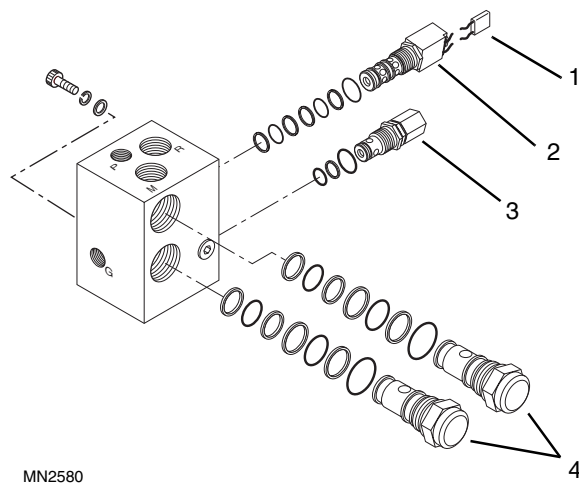

Figure 4-70 High Flow Valve Components
8. Unplug the electrical connector (Fig. 4-70, 1) from the solenoid (2) on the valve.
2. Remove the solenoid/cartridge assembly (Fig. 4-70, 2) from the valve housing.
3. Remove the relief valve (Fig. 4-70, 3) from the valve housing.
4. Remove both pressure sensing valves (Fig. 4-70, 4) from the valve housing.
1. Clean all components with a suitable solvent. Avoid getting solvent on the electrical portion of the solenoid valve (Fig. 4-70, 2).
1. Install the solenoid/cartridge assembly (Fig. 4-70, 2). Torque to 4-6 lb/ft (5-8 Nm).
2. Install the relief valve (Fig. 4-70, 3). Torque to 35-40 lb/ft (47-54 Nm).
3. Install both pressure sensing valves (Fig. 4-70, 4). Torque to 95-115 lb/ft (129-156 Nm).
3. Plug the electrical connector (Fig. 4-70, 1) from the solenoid (2) on the valve to the high flow harness.